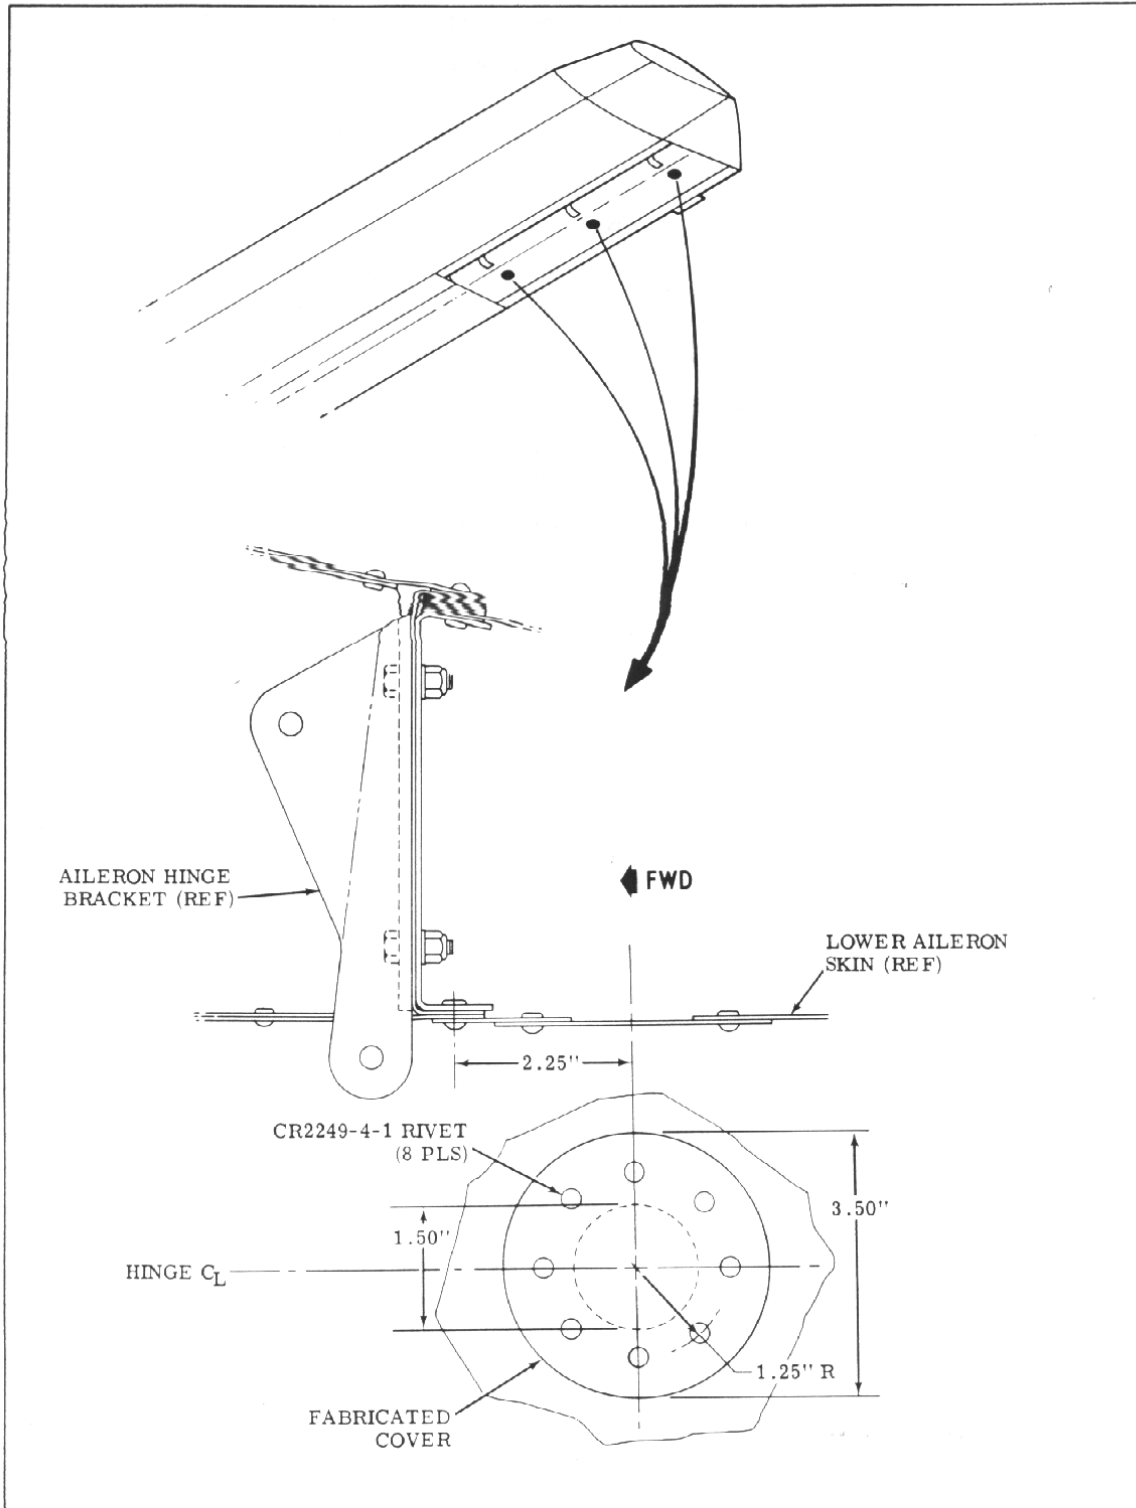

Figure 2.
4. Cut a 1.50-inch diameter hole (as necessary) in lower aileron skin in order to gain access to aileron hinge bracket attaching nuts (see Figure 2.).
6. Fabricate a cover as shown in Figure 2. from 2024-T3 aluminum sheet stock.
7. Install cover, fabricated in step 6., using CR2249-4-1 blind rivet (8 places) (see Figure 2.).
7. Install cover, fabricated in step 6. using CR 2249-4-1 blind rivet (8 places) (see Figure2.).